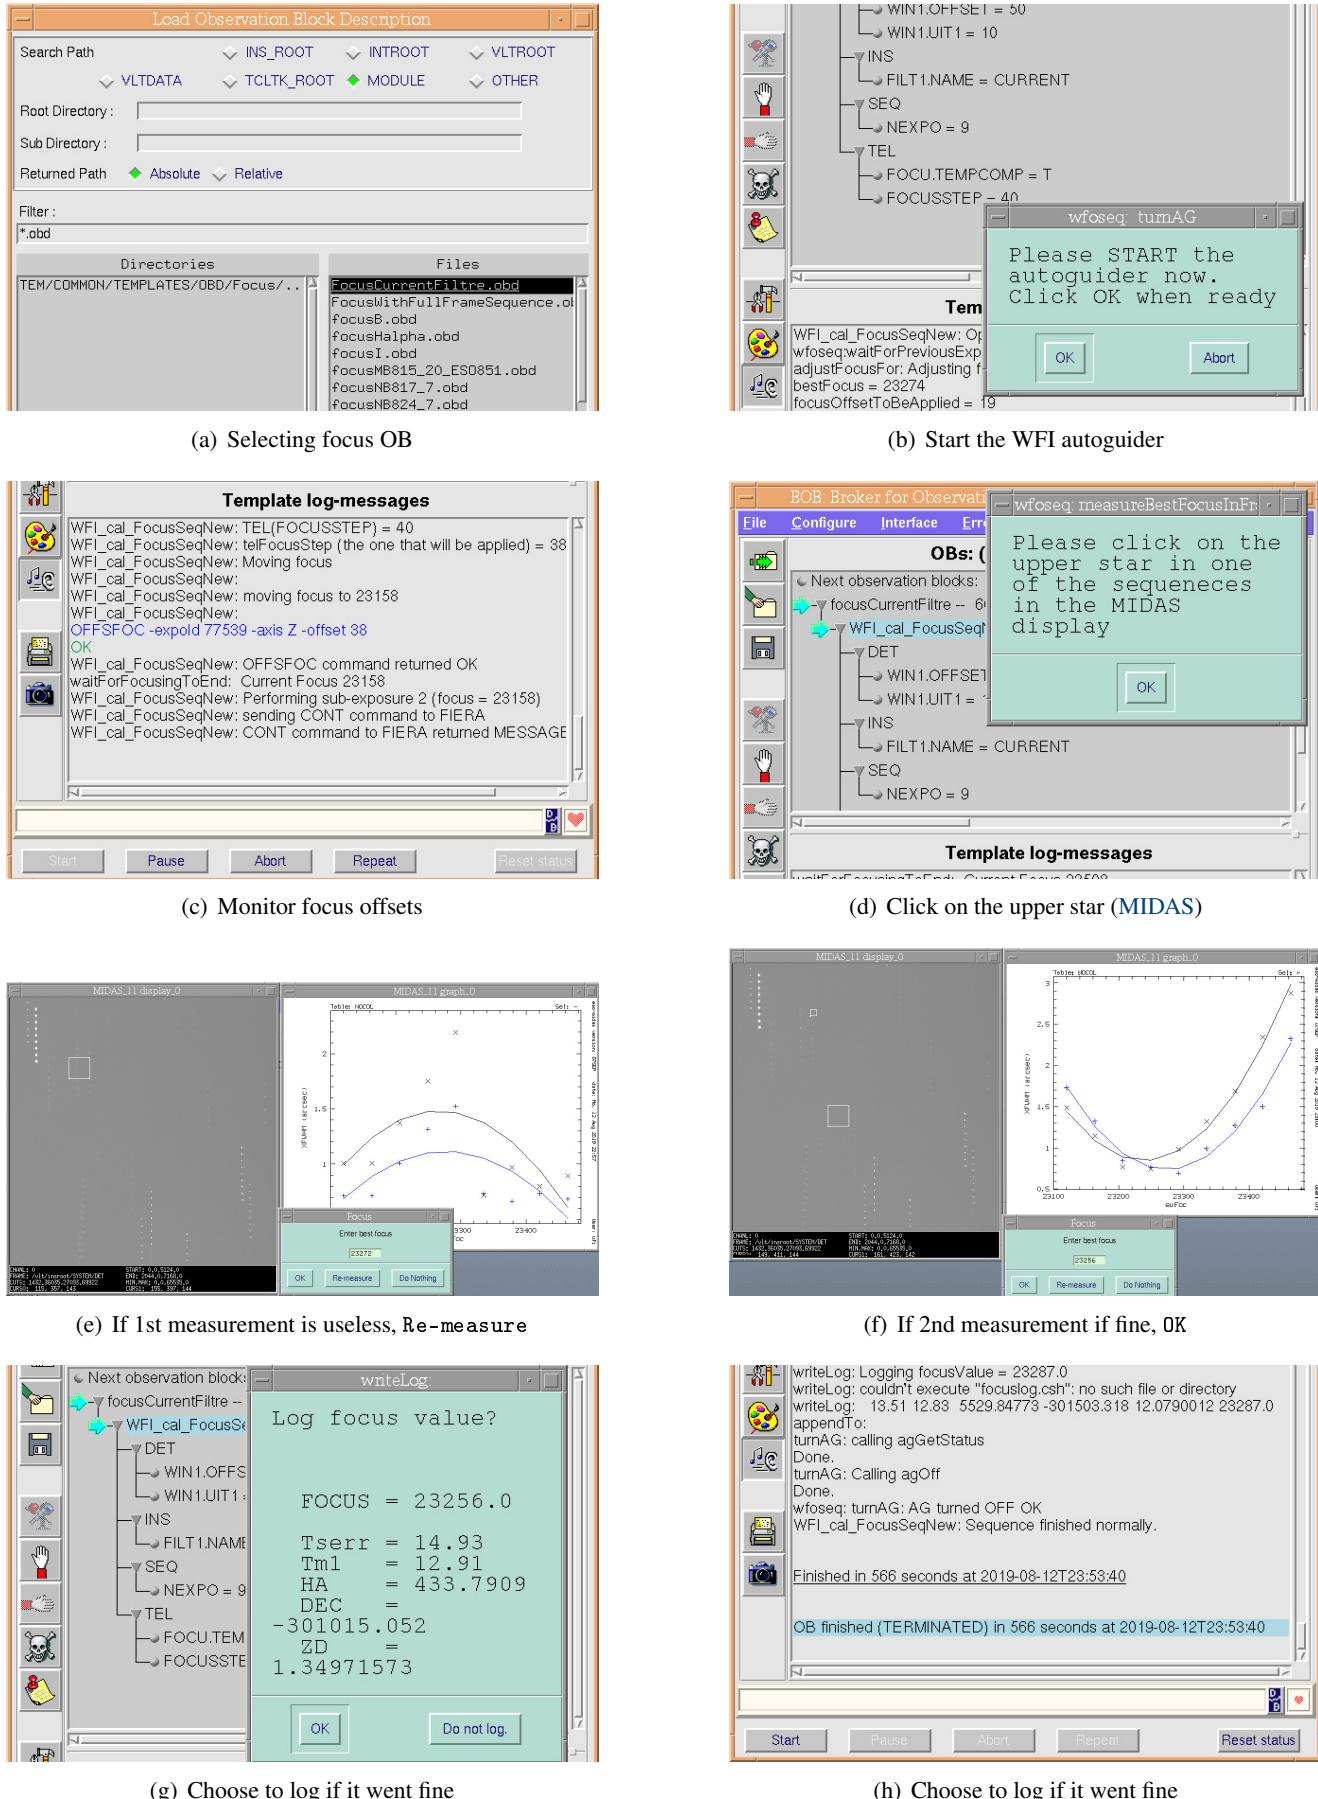

Figure 5.1: Main steps in the focus sequence of WFI.
- B. Start the focus OB (Fig. 5.1(a), p. 47) and perform AG acquisition if required (Fig. 5.1(b), p. 47)
- C. Monitor the progress of the focus sequence on bob and skycat (Fig. 5.1(c), p. 47, 6 min).
- D1. Click **OK** on the pop-up asking to pick a star in MIDAS window (Fig. 5.1(d), p. 47)
- D2. Go to **virtual desktop** MIDAS (Fig. 5.1(e), p. 47)
- E. Perform focus measurement (Fig. 5.1(f), p. 47)
- E7. Wait for a pop-up to ask whether to log the value (Fig. 5.1(g), p. 47, 20 s)
- E8. Wait for OB to finish (Fig. 5.1(h), p. 47, 10 s)